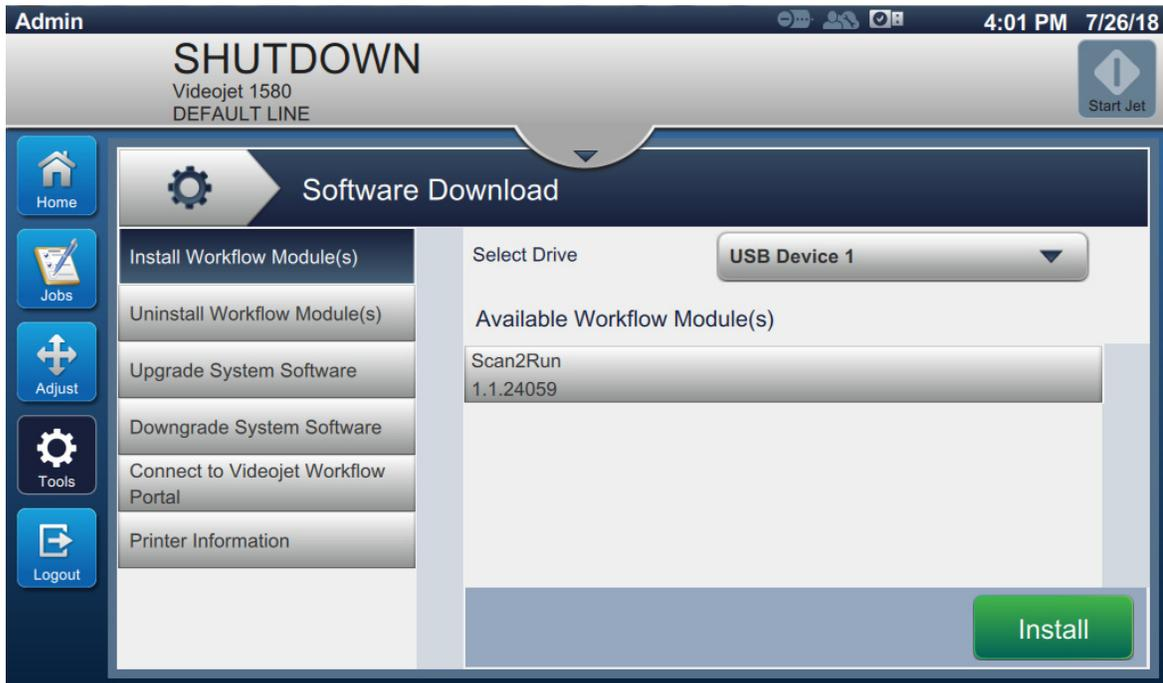

Figure 6-5: Software Download Screen
1. Touch the  button from the Tools screen. The Software Download screen opens as shown in the Figure 6-5.